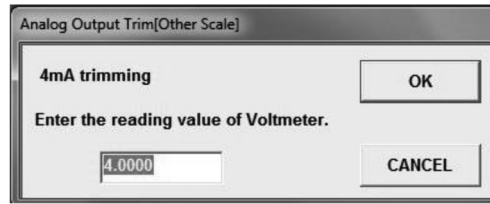

Fig.49
- ④ Begin with 1V (4mA) trim. A message box like the one shown in Fig. 49 appears. Key in the reading of the test instrument and Click on "OK".